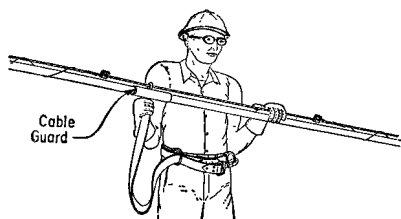

FIGURE 1.
- 3.08 When either the snap hook or buckle of the safety strap is likely to contact the cable sheath, provision should be made to protect the sheath from damage. This protection may be provided by slipping a cable guard over the cable or by wrapping the cable with muslin or friction tape at the place of contact. See Figure 1.